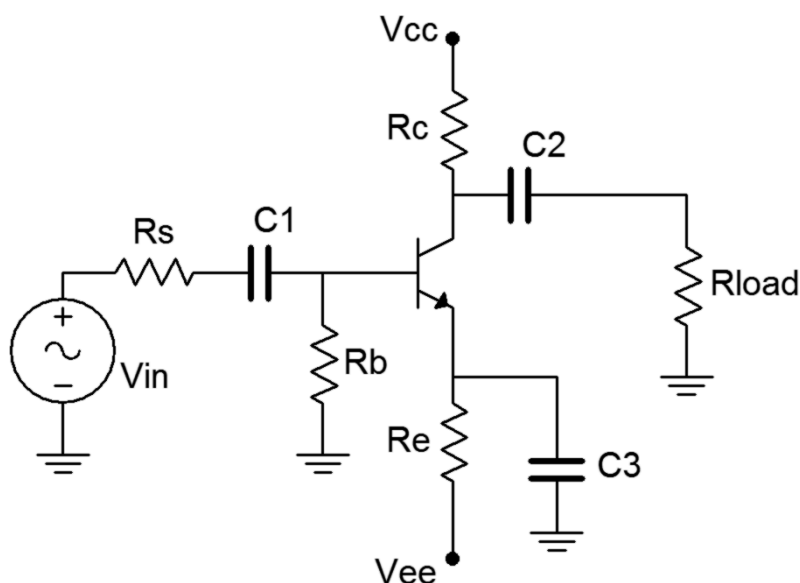

Figure 1
1. The circuit of Figure 1 is the same as the one used in the Common Emitter Amplifier exercise. The values used were $V_{cc} = 15$ volts, $V_{ee} = -12$ volts, $R_s = 10$ k Ω , $R_b = 33$ k Ω , $R_e = 22$ k Ω , $R_c = 15$ k Ω , $R_{load} = 20$ k Ω , $C_1 = C_2 = 10$ μ F and $C_3 = 470$ μ F. It was shown that the amplifier produced considerable voltage at 1 kHz. Build the circuit using these values and verify that it is operating correctly by setting V_{in} to a 40 mV peak-peak sine wave at 1 kHz and measuring V_{out} . Compute the voltage gain and record these two values in Table 1.